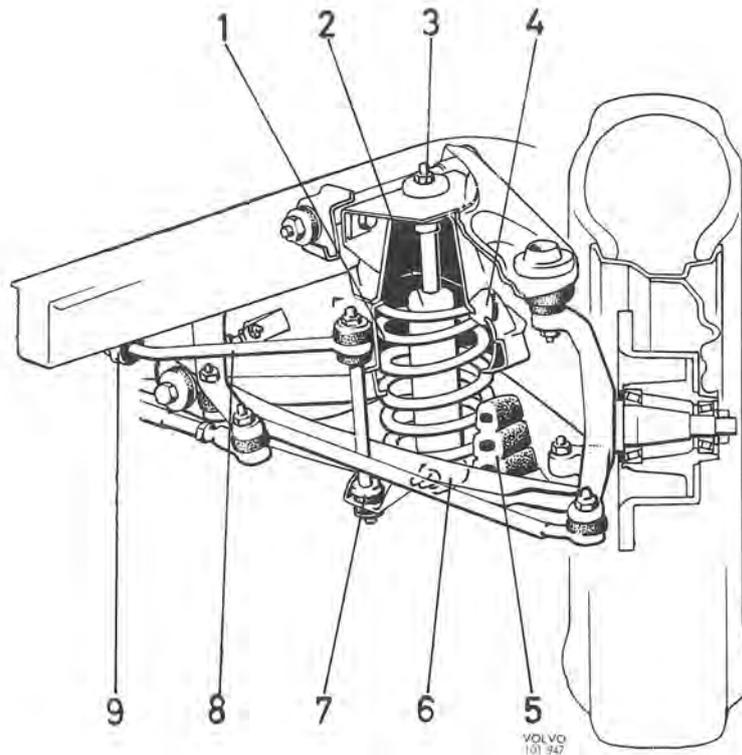

Fig. 7-2. Front spring and shock absorber
The Volvo 164 is provided with coil springs at both front and rear. The front wheel suspension is independent. The upper ends of the front springs (1, Fig. 7-2) are seated in housings formed in the front axle member, and are seated in the bottom of the lower wishbones. The lower wishbones are also provided with rubber buffers (5), which absorb any impacts arising from loading on the spring. The front
4. Disconnect the steering rod from the steering arm. Loosen the clamp for the brake hoses. Remove the attachment (7, Fig. 7-2) for the stabilizer.
The stabilizer (8, Fig. 7-2), which is attached to both the lower wishbones (7) and to the frame (9), increases the stability of the vehicle.